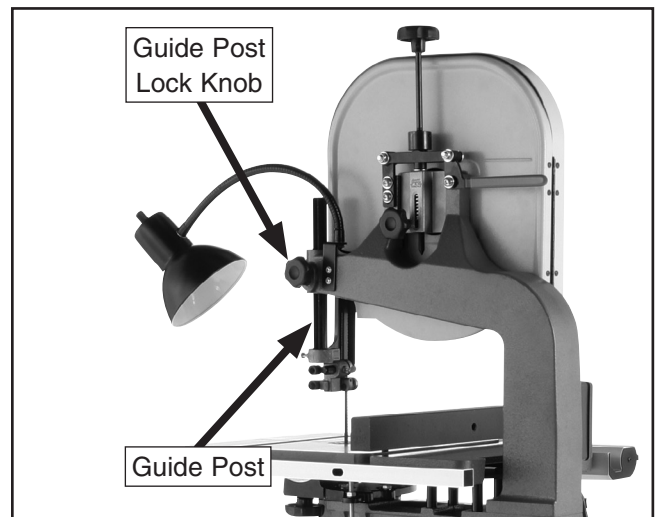

Figure 28. Guide post controls.
The guide post (shown in **Figure 28**) connects the upper blade guide assembly to the bandsaw. The guidepost allows the blade guide assembly to move up or down to be as close to the workpiece as possible. In order to cut accurately and safely, the bottom of the blade guide assembly must be no more than 1" from the workpiece at all times—this positioning provides the greatest support to the blade and minimizes operator exposure to the blade.
2. Loosen the guide post lock knob shown in **Figure 28**.